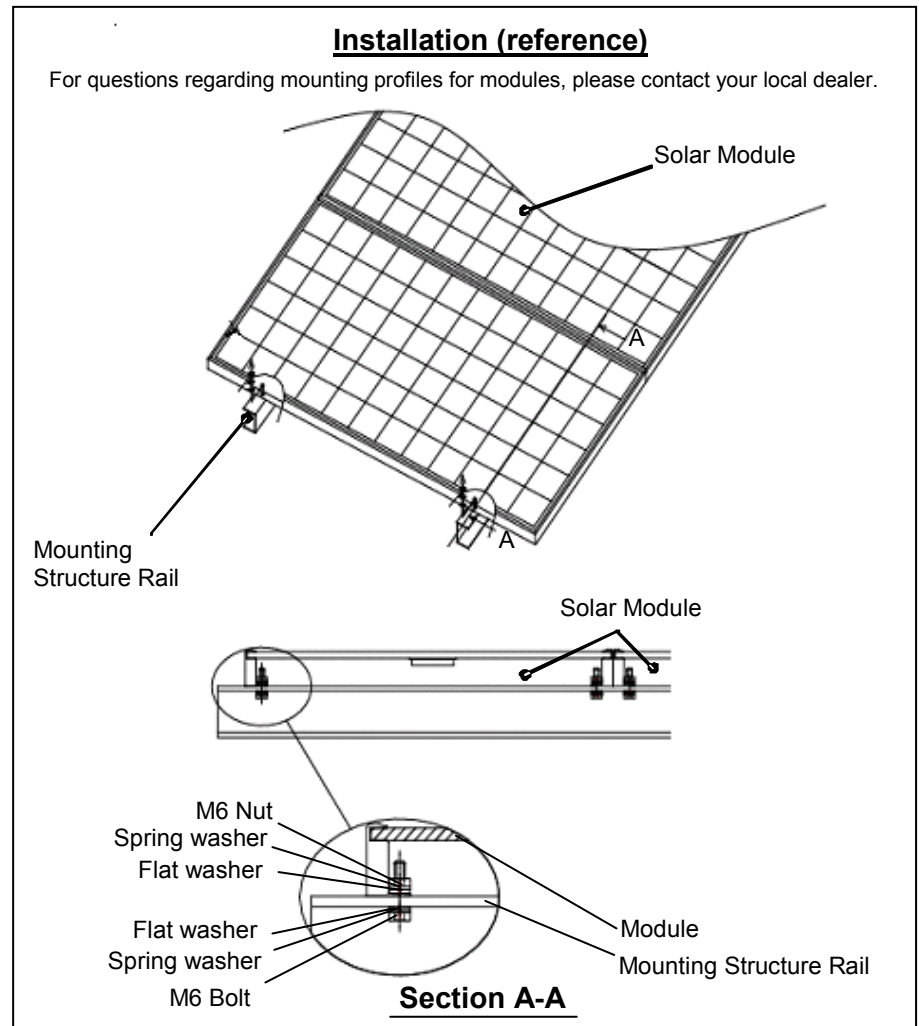

Figure1: Installation
- We recommend installation methods shown in Figure 1. In some areas, local electrical codes may govern the installation and use of PV modules.